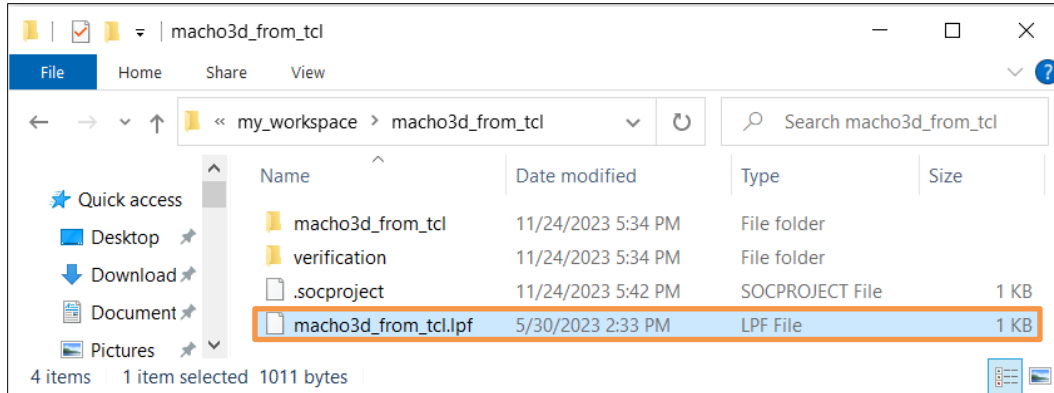

Figure 5.15. Rename Lattice Diamond Constraint File Copied from Source Project
- e. Rename the file with the new project name (Figure 5.15).